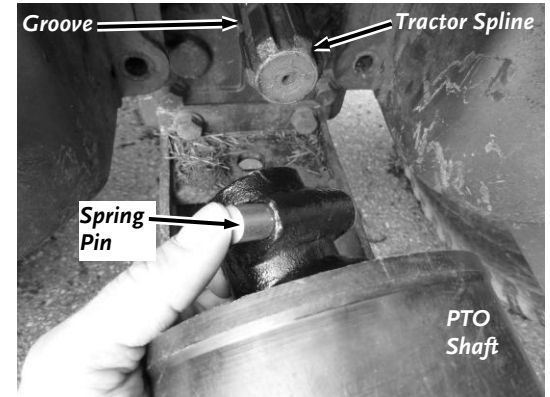

Figure 20
1. Push in the Spring Pin at the Shear Bolt end of the PTO Shaft and slide it onto the Tractor Spline (**Figure 20**). When the PTO Shaft is started on the Tractor Spline Shaft, release the Pin and continue to push the PTO Shaft until the Spring Pin locks into the Groove of the Tractor Spline.